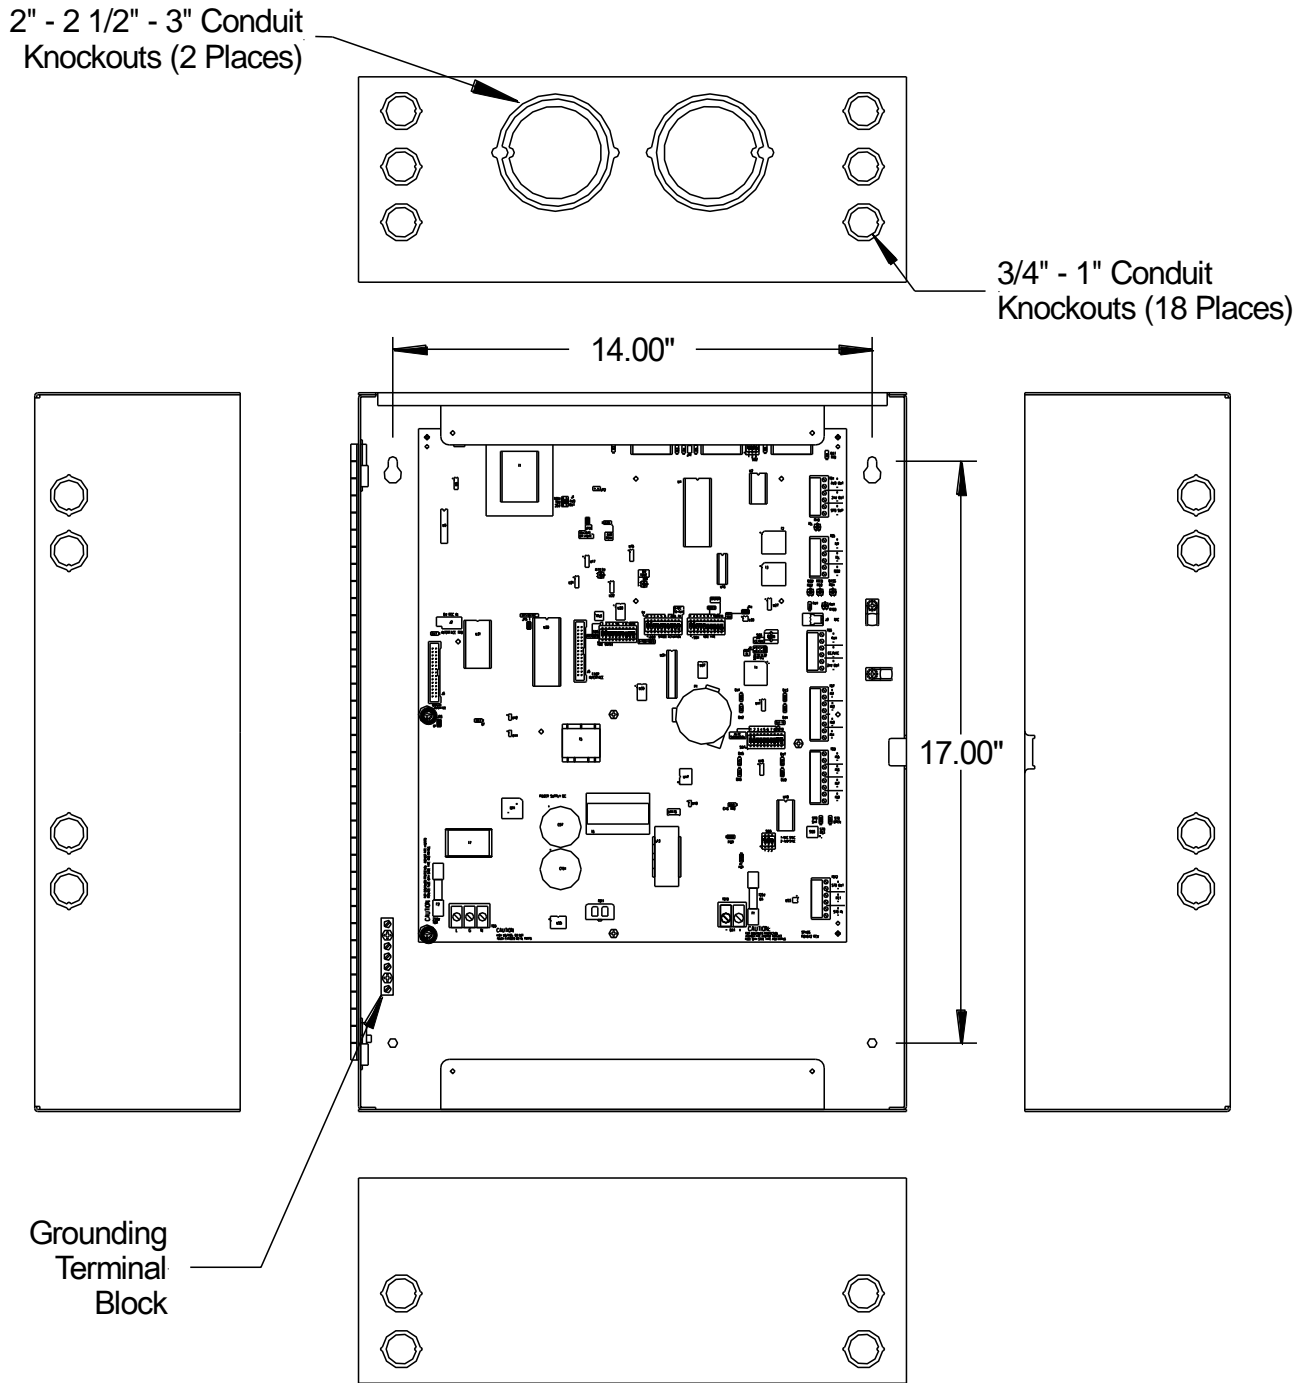

Figure 4-2 SP40S Panel Mounting and Grounding/Conduit Location
1. See Figure 4-2 for the panel mounting hole layout.
**NOTE:** Shielded wire is not required on any output circuits. If shielded wire is used, connect the shields to the ground terminal block as shown in Figure 4-2.
3. Connect the SP40S panel to earth ground, following the National Electrical Code and local codes for the type of system being installed. Wire gauge selection of the earth ground wiring involves consideration of all factors, including maximum allowable wire resistance and length. The panel is tied to earth ground by connecting the ground terminals to an earth ground. The location of the ground terminals within the panel is shown in Figure 4-2.